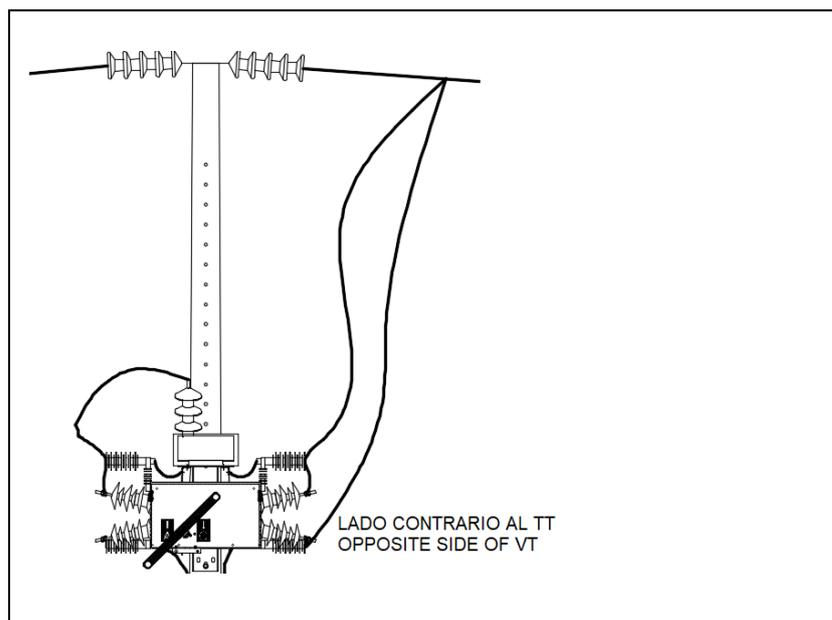

Fig. 4.2.3 (1)
-Connect to the line on the side of the switch that has no transformer. (Fig. 4.2.3 (1)). To ensure the voltage transformer receives voltage simultaneously in the two primary terminals of the transformer when the line is energized.